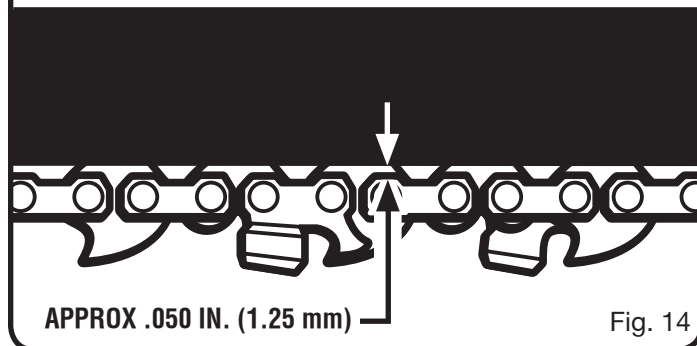

Fig. 14
- During normal operation, the temperature of the chain will increase. The drive links of a correctly tensioned warm chain will hang approximately .050 in. (1.25 mm) out of the bar groove, as shown in fig. 14.